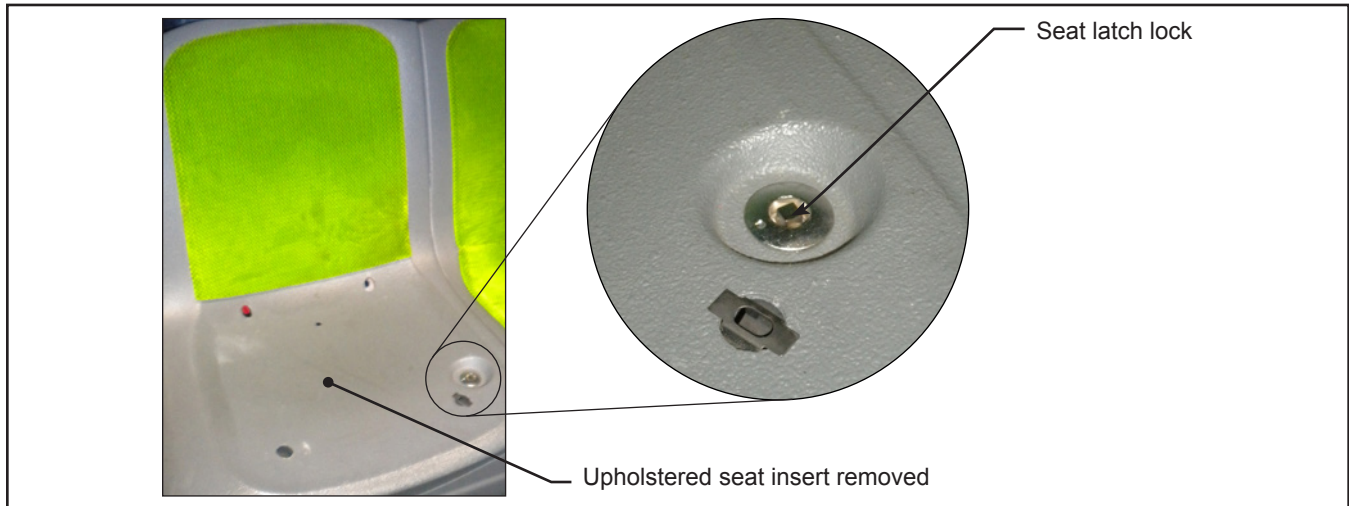

Figure 1 - Double-Seat Bench Latch Lock
- 1.2. Remove the upholstered seat inserts from both seats of the removable double-seat bench. See Figure 1.
- 1.3. Unlock both seat latches in order to allow the bench to be opened and closed freely. See Figure 1.